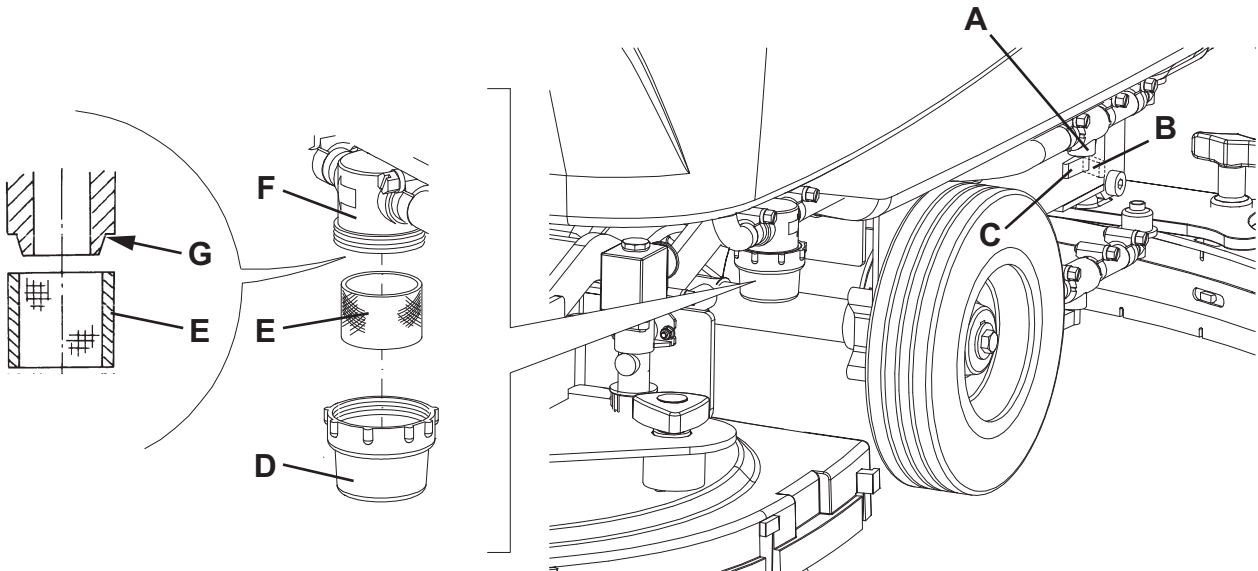

Figure 6
3. Close the solution tap (A, Fig. 6) under the machine, behind the right rear wheel. The tap (A) is closed when it is on the position (B) and it is open when it is on the position (C).
4. Remove the transparent cover (D), then remove the filter strainer (E). Clean and install them on the support (E).
1. Disconnect the battery connector (12).
2. Move aside the recovery water drain hose (16).
3. Remove the battery charger cable (I, Fig. 6) from the holder (J).
4. Remove the screws (A) and carefully move aside the panel (B) by disengaging the grommet (K) from its housing on the panel (B).